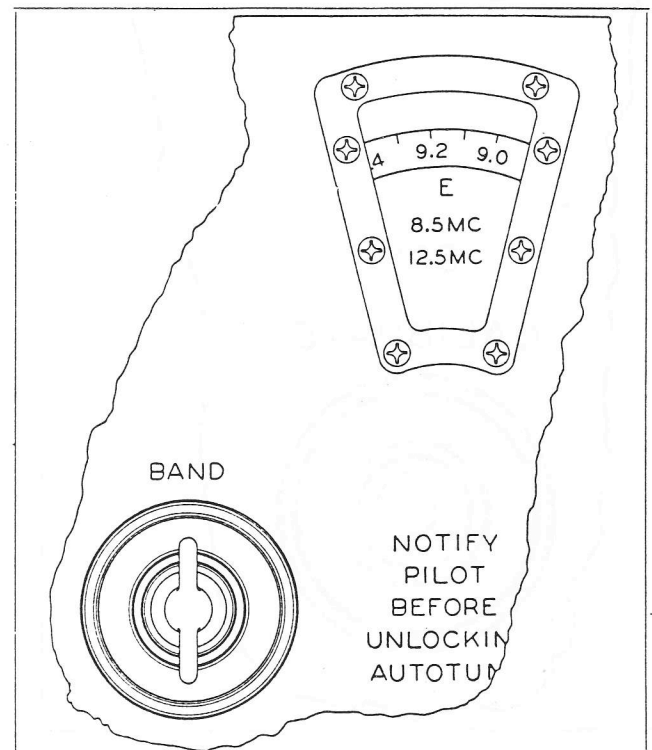

Figure 2-7. Band Switch Details
(3) BAND SWITCH.—The BAND switch, (figure 2-7,) is connected to the AUTOTUNE Singleturn Unit and is used to select the band of frequencies that contain the one upon which reception is desired. The frequency range of the receiver, 1500 to 18,500 kc, is divided into six bands. The frequency band may be manually selected, if the AUTOTUNE Singleturn Unit stop rings are unlocked, by rotating the locking key in a counterclockwise direction. The BAND switch operates a mechanism which selects the r-f coupling and r-f amplifier plate tank circuits that will tune to the band of frequencies in which